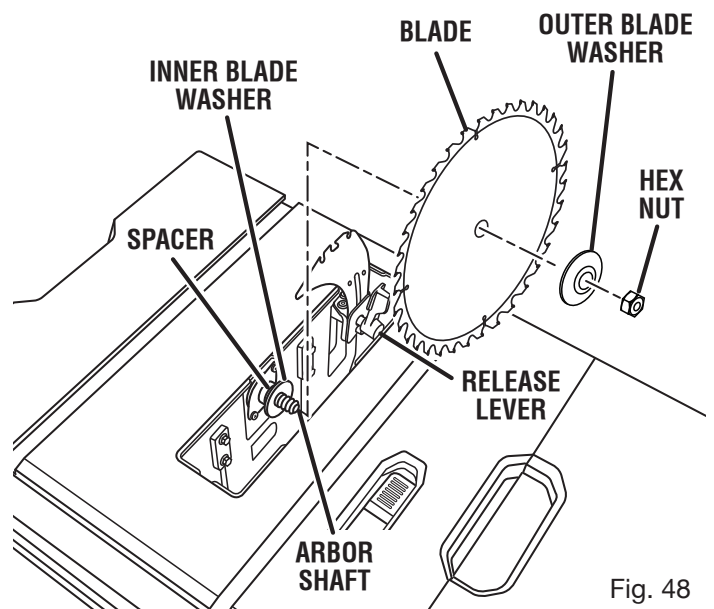

Fig. 48
- Remove the blade nut, outer blade washer, saw blade, inner blade washer, and spacer (*see figure 48*).